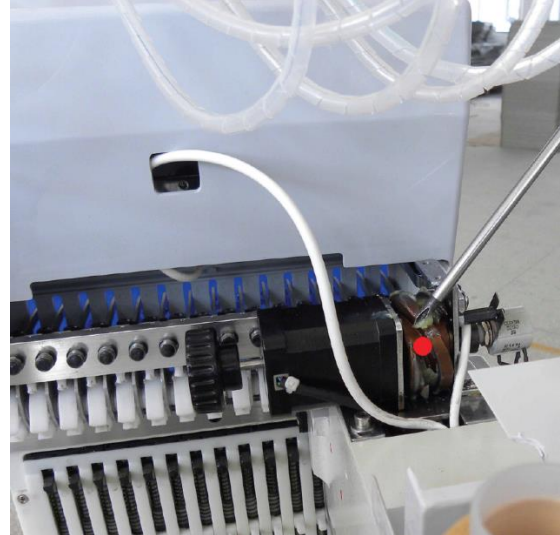

Figure 89 Color Change Cam
- b. Color Change Cam (Fig. 89).